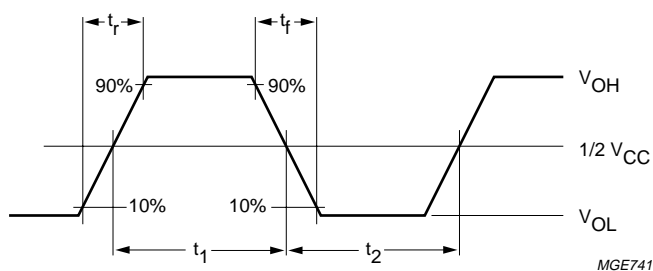

Fig.15 Definition of transition times.
3. The transition time and duty cycle definitions are shown in Fig.15;  $\delta = \frac{t_1}{t_1 + t_2}$